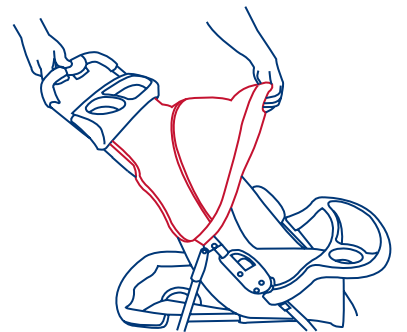

Fig. 12
- * To open the canopy, push forward on the front frame of the canopy. Pull backwards on the canopy frame to fold completely. Always fold the canopy prior to folding the stroller frame. Please see figure 12.